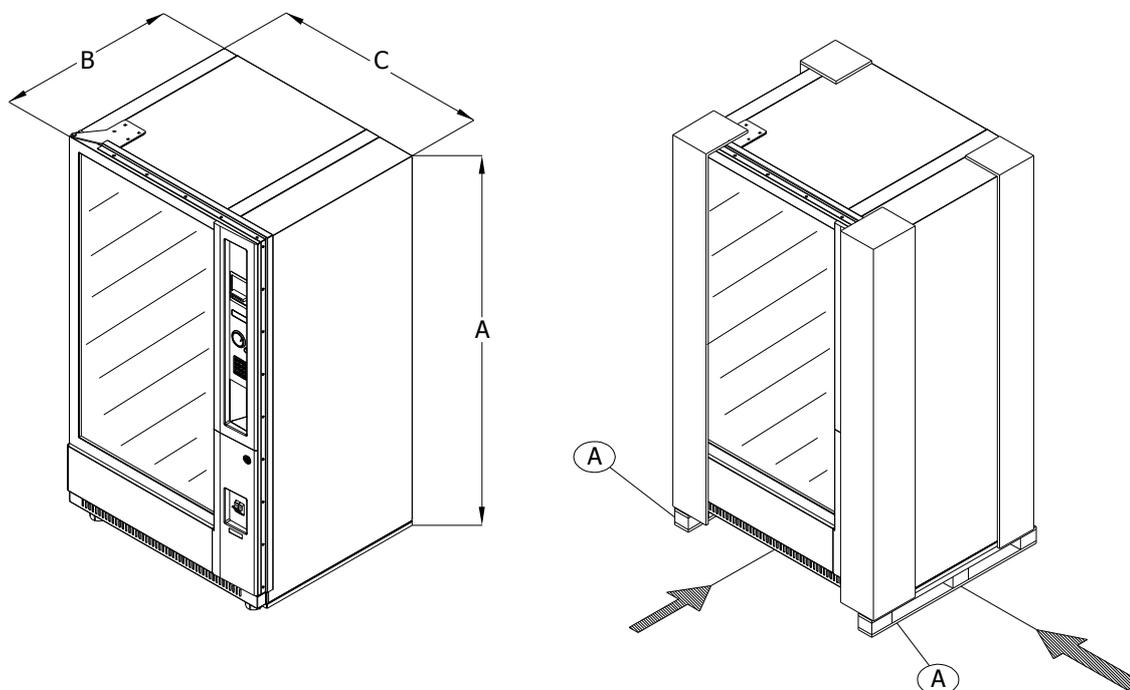

FIG. 3.1
- Use a transpallet/forklift having a minimum loading capacity of 400 kg., the wooden base (A) permits to fork the vendor on 4 sides (fig. 3.1).